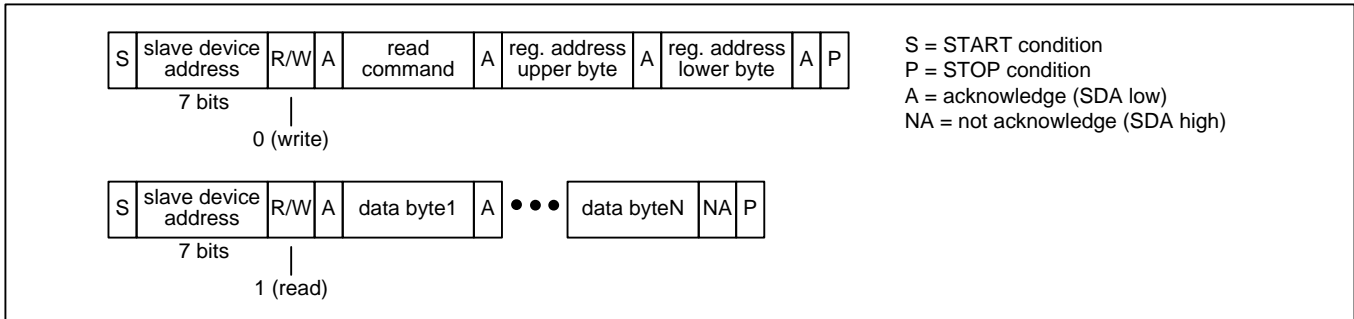
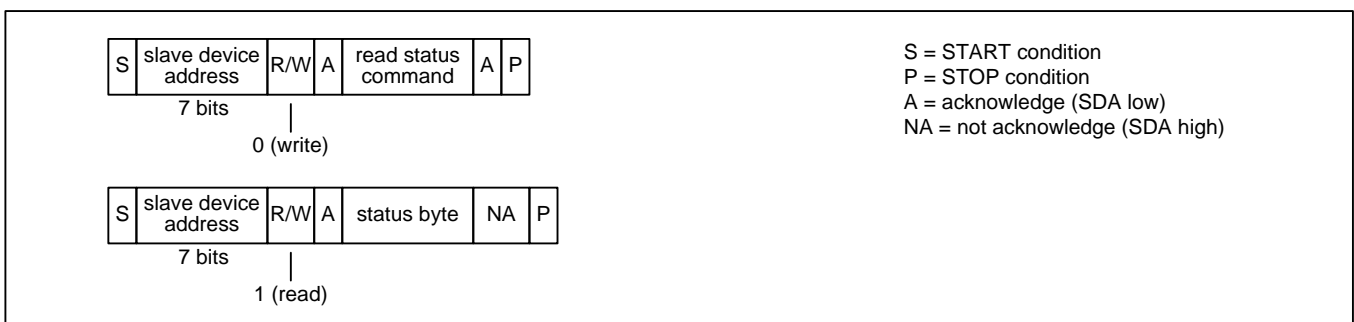

Figure 10 – I2C Read Transaction Functional Timing
Figure 13 – I2C EEPROM Read Status Transaction Functional Timing (ZL30251 Only)
**Read Transactions.** The device registers are accessible when `EESEL=0`. On a ZL30251 the internal EEPROM memory is accessible when `EESEL=1`. On ZL30250 `EESEL` must be set to 0. The bus master first does an I2C write to the device. In this transaction three bytes are written: the SPI Read command (see Table 3), the upper byte of the register address, and the lower byte of the register address. The bus master then does an I2C read. During each acknowledge (A) bit the device fetches data from the read address and then increments the read address. The device then transmits the data to the bus master during the next 8 SCL cycles. The bus master terminates the read with a not-acknowledge (NA) followed by a STOP condition (P). See Figure 10. Note: If the I2C write is separated in time from the I2C read by other I2C transactions then the device only outputs the data value from the first address and repeats that same data value after each acknowledge (A) generated by the bus master.
**EEPROM Read Status (ZL30251 Only).** The bus master first does an I2C write to transmit the SPI Read Status command (see Table 3) to the device. The bus master then does an I2C read to get the status byte. In this byte, the least significant bit is set to 1 if the transfer is still in progress and 0 if the transfer has completed. See Figure 13.
Note: In Figure 10 through Figure 13, a STOP condition (P) immediately followed by a START condition (S) can be replaced by a repeated START condition (Sr) as described in the I2C specification.